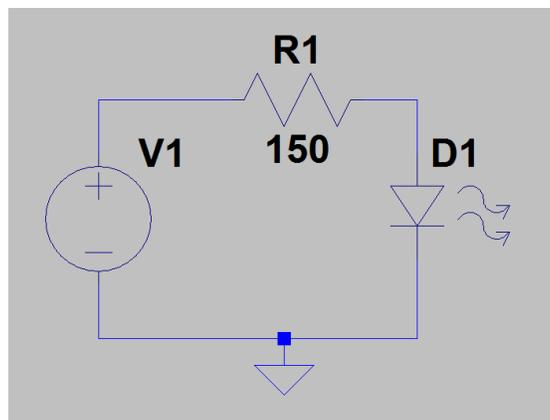

Figure A-4
- Wire the circuit shown in Figure A-4 on your protoboard using any of the LEDs in your kit. Set up Analog Discovery to measure the voltage across R1 and the voltage across D1. Note that the voltage measurement across R1 is a differential measurement and not referenced to ground. Set up the function generator to produce a triangular wave with amplitude 5V and frequency 1kHz.